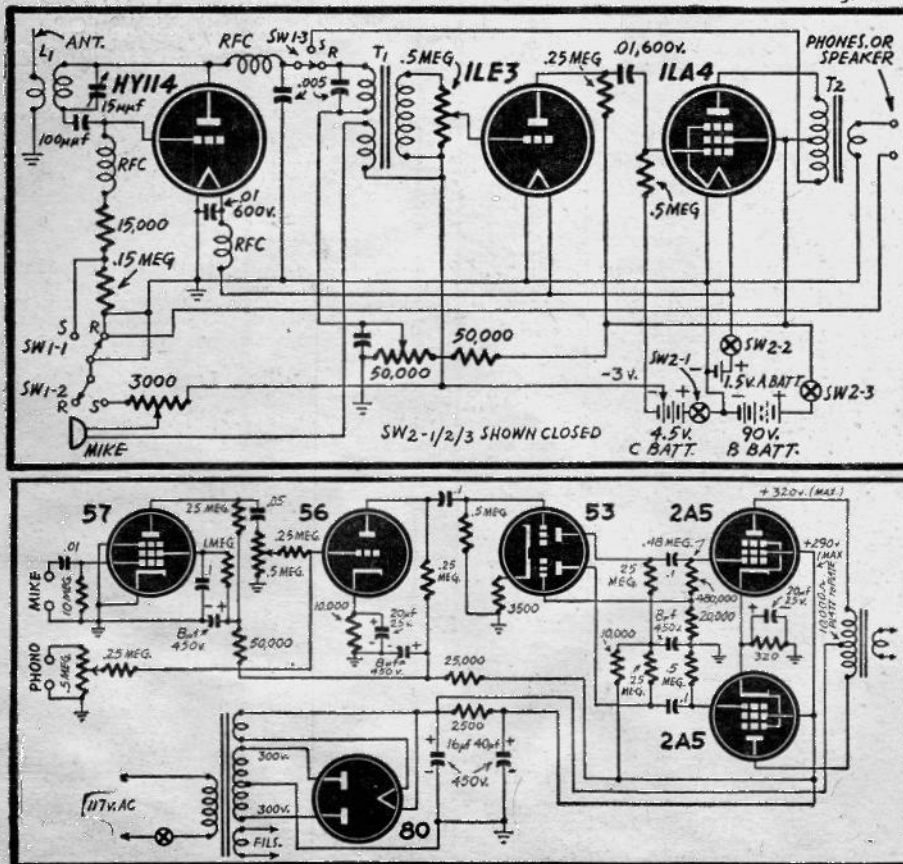

Fig. 1, above—Transceiver for 2 meters. Fig. 2, below—Amplifier for 2½-volt tubes.
A. Radio transmission is prohibited to the general public without a license. The possession of an amateur radio license permits transmission in certain bands, but 300 mc is not included at the present time. The set shown will operate on 2½ meters. See Fig. 1.